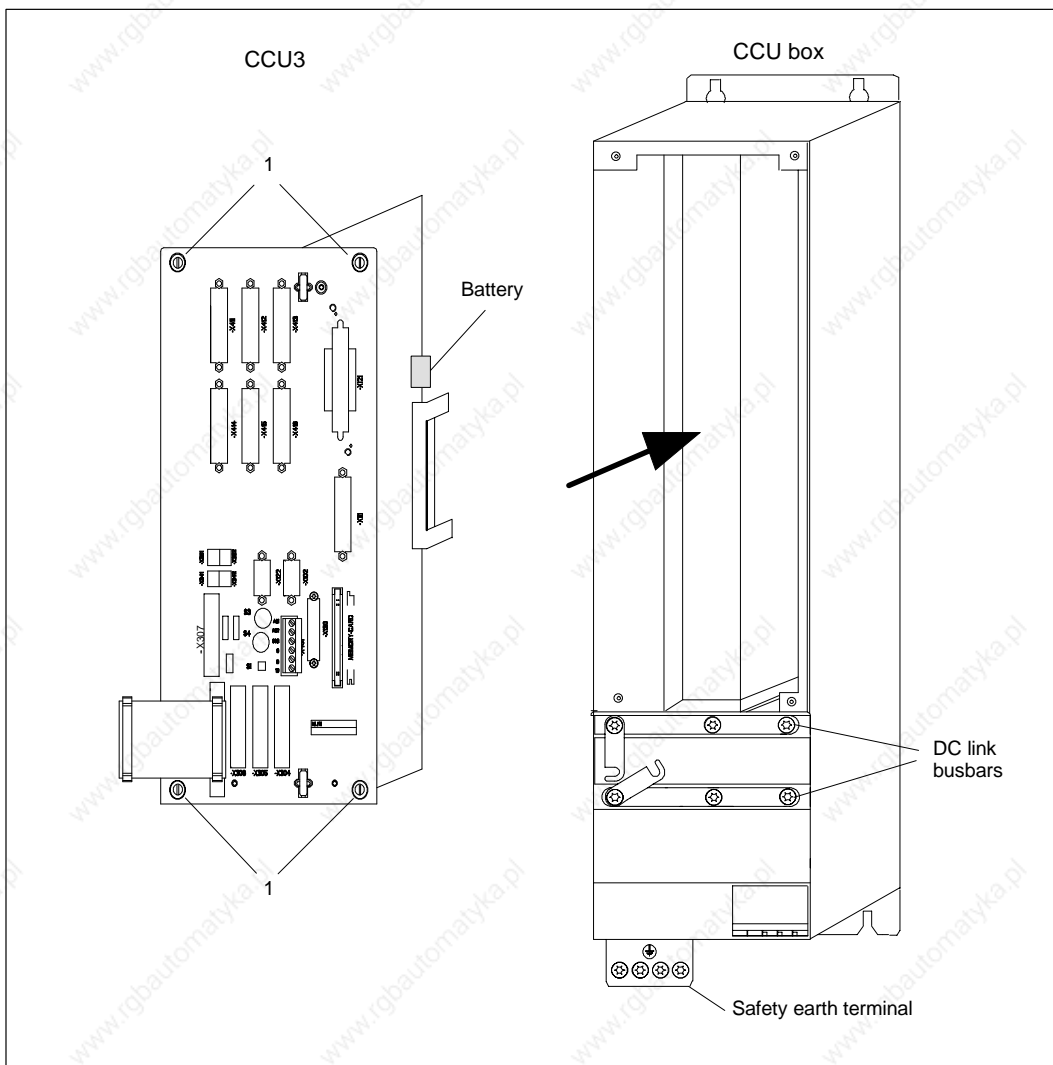

Fig. 3-3 Assembling the SINUMERIK 810D
The slotted screws (1) must be tightened (see Fig. 3-3) to ensure compliance with EMC requirements and to guarantee the necessary vibration resistance.